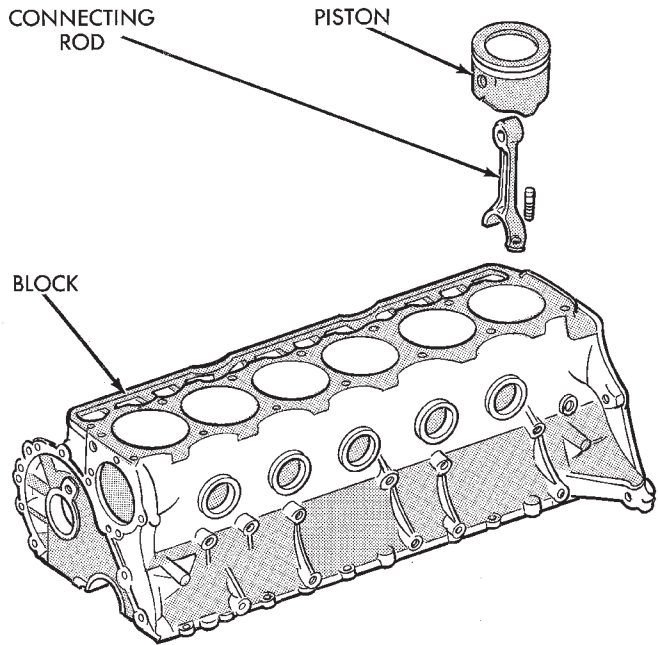

Fig. 58 Removal of Connecting Rod and Piston Assembly
(12) Have an assistant push the piston and connecting rod assemblies up and through the top of the cylinder bores (Fig. 58).